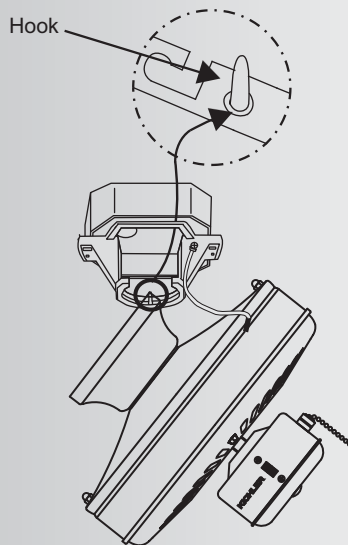

Fig. 10
Step 7. Hang the fan on the hook of the hanger bracket. Be certain that the canopy is fully locked into hook as shown in Fig. 10. This will allow you to make the electrical connections.